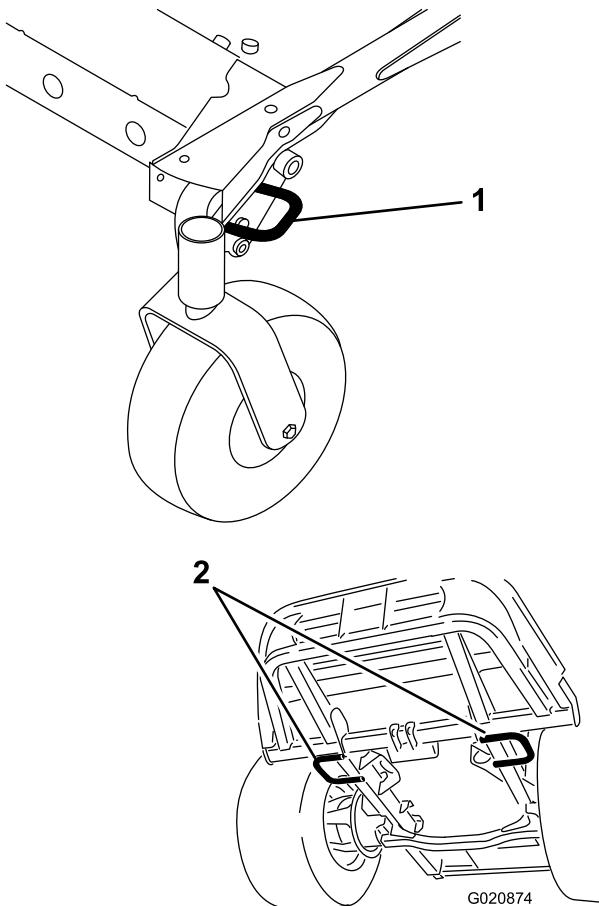

Figure 36
- Securely fasten the machine to the trailer or truck with straps, chains, cable, or ropes as required by local traffic regulations in your area (Figure 36).